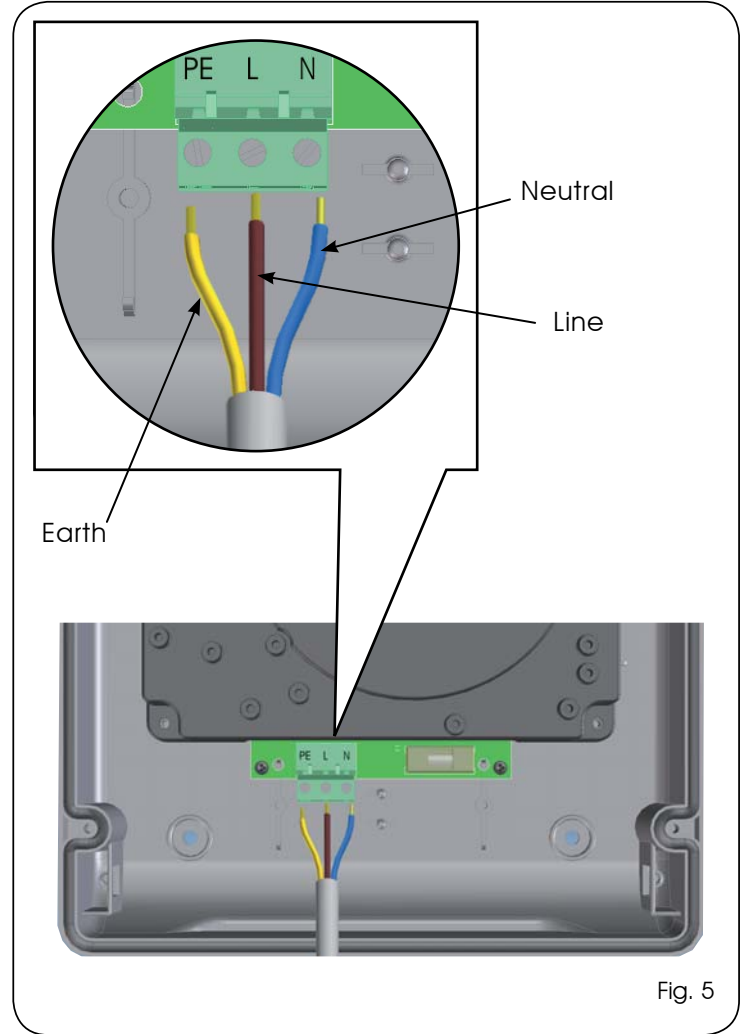

Fig. 5
Connect the power cable to the switching feeder as shown in Fig.5, making sure that there is an adequate thermal breaker upstream.
- Connect the earth cable to the relevant terminal (see fig.5).